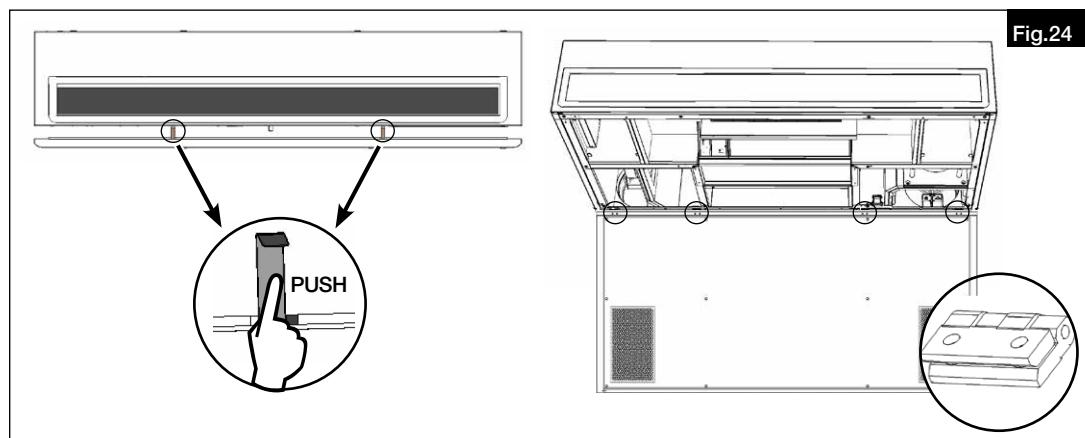

Fig.24
2. Carefully open the cover by pushing the securing tabs (see Fig.24).